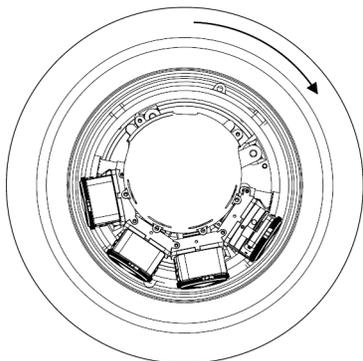

Figure 10: Attach Trim Ring to the Flush Mount Adapter clockwise
8. Attach the Trim Ring to the Flush Mount Adapter by rotating clockwise as show in Figure 10.